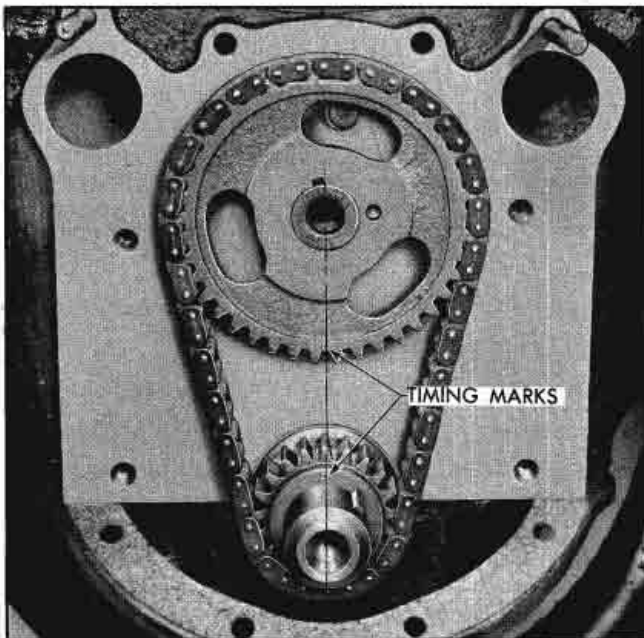
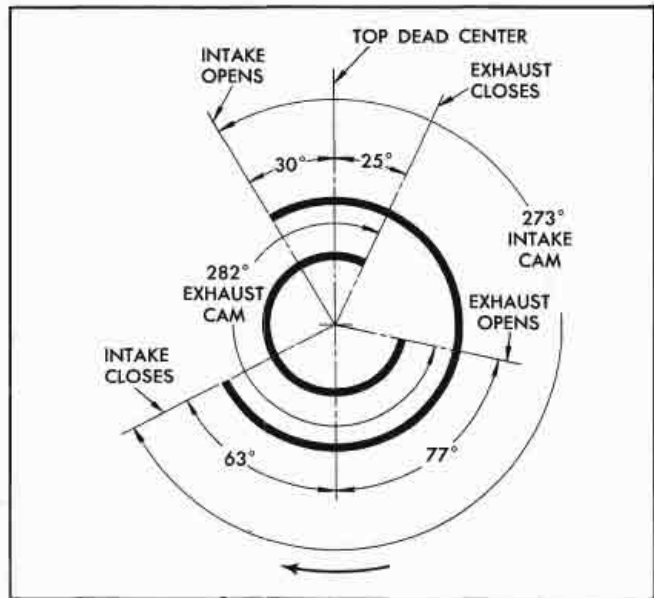
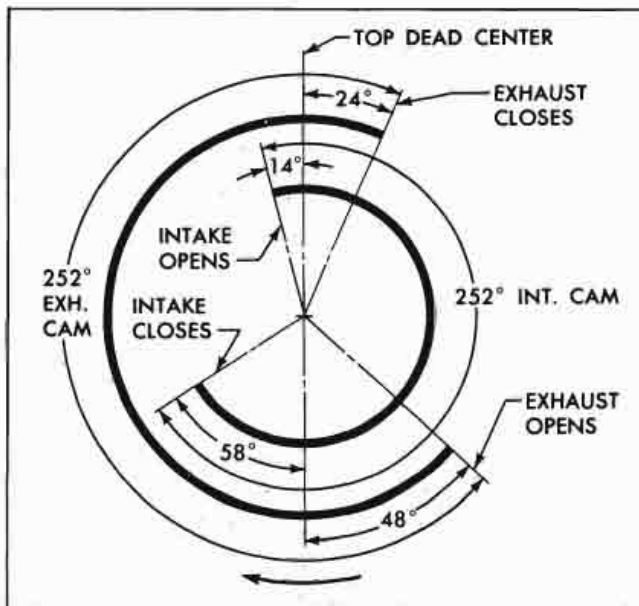

Fig. 6-44 Aligning Timing Marks
Fig. 6-45 Valve Timing Diagram for Super Hydra-Matic
Fig. 6-48 Valve Timing Diagram for 3-Speed Synchro-Mesh
3. Align timing marks to simplify proper positioning of sprockets during reassembly (Fig. 6-44).
5. Install new timing chain and/or sprockets making sure marks on timing sprockets are aligned exactly on a straight line passing through the shaft centers (Fig. 6-44). Camshaft should extend through sprocket so that hole in fuel pump eccentric will locate on shaft. Valve timing diagrams for the engine are shown in Fig. 6-45 through Fig. 6-48.